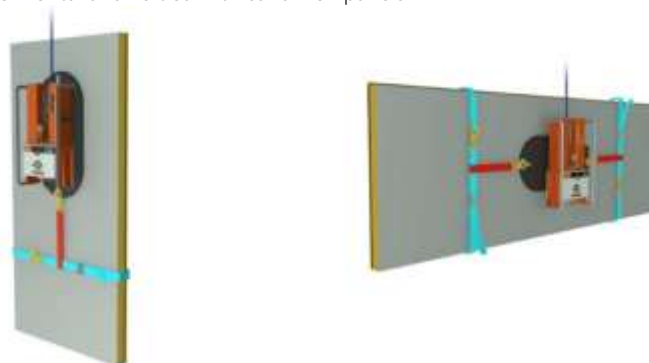

Fig. 4.21
- 1 (single) vacuum circuit and using secondary safety devices as shown in Figure 4.21.